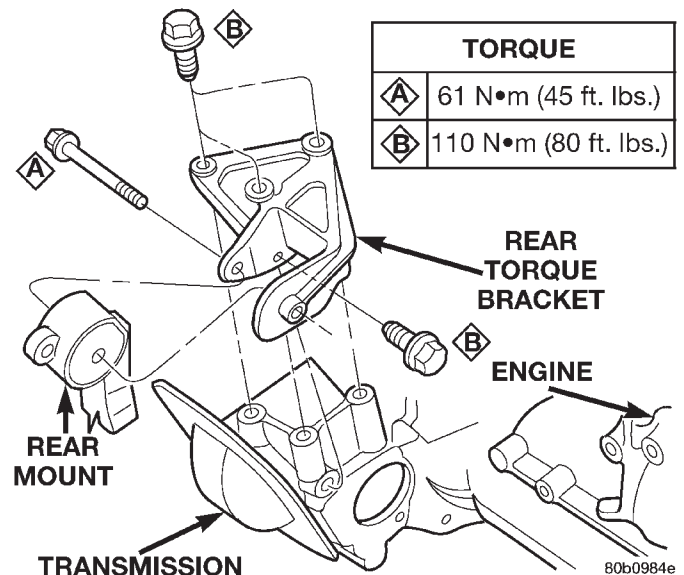

Fig. 18 Engine Mounting—Rear 2.4L Engine
- (1) Raise vehicle on hoist.
- (2) Remove through bolt (A) from rear engine mount and bracket (Fig. 18).
- (4) Tighten through bolt (A) at rear mount to 61 N·m (45 ft. lbs.) (Fig. 18).
- (5) Lower vehicle.